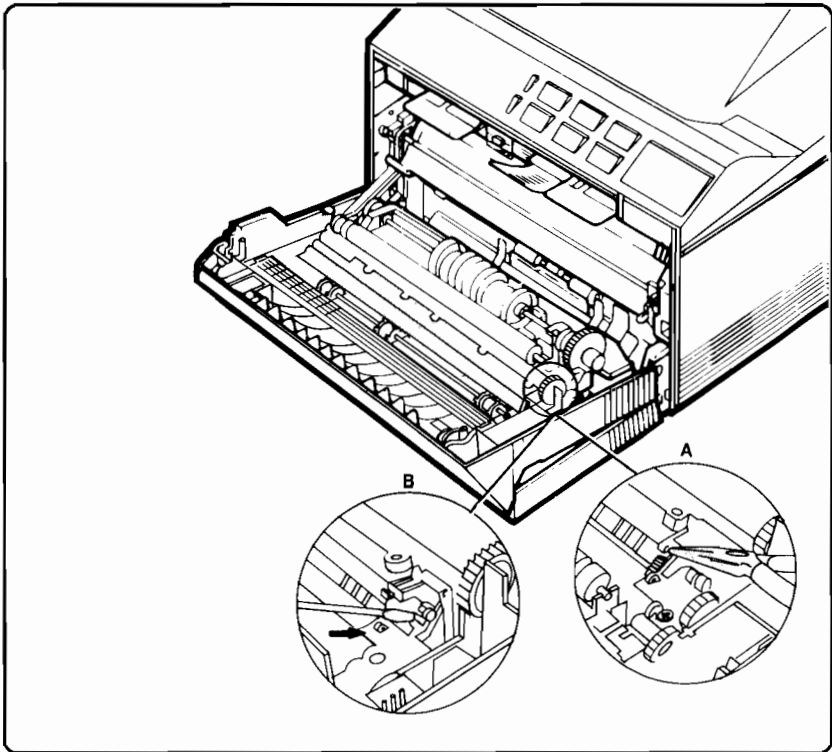

Figure 6-66. External Fuser Access Door Removal
3. Remove the Door Spring using small needle nose pliers (see Figure 6-66, detail A).
5. Unclip the right end of the access door using a small flat-head screwdriver (see Figure 6-66, detail B).